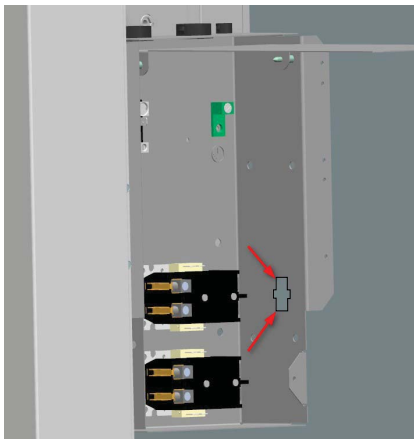

Figure 31
2. Locate the J39 mounting slot on the inner side of the EH Control box. Figure 31 shows connection slot for right hand configuration.